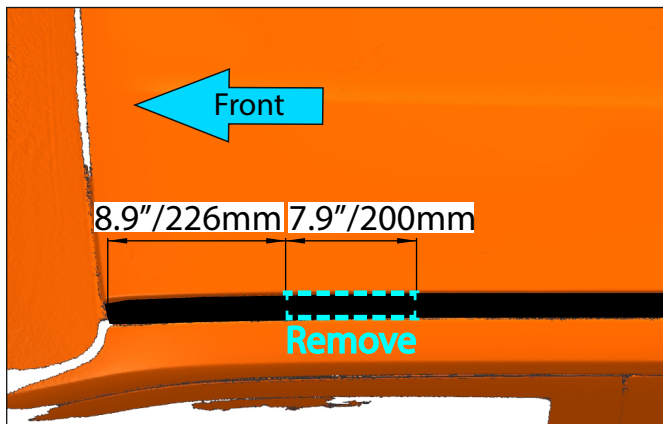
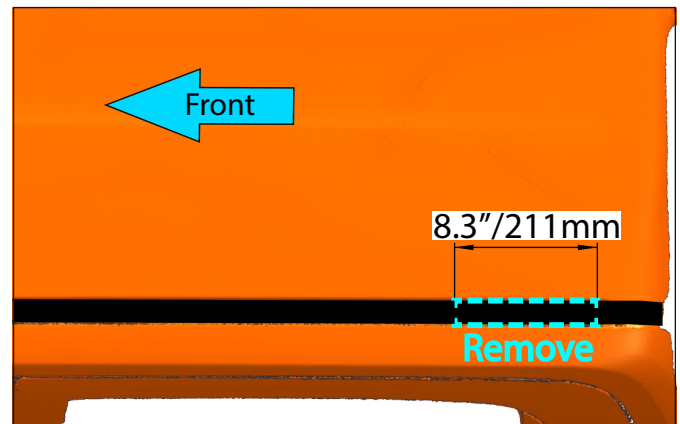

Fig. 1
Fig. 2
1. Cut ditch molding using dimensions: 8.9 inch (226mm), 7.9 inch (200mm), 8.3 inch (211mm) as shown in fig.1 and fig.2 on both sides of the vehicle.